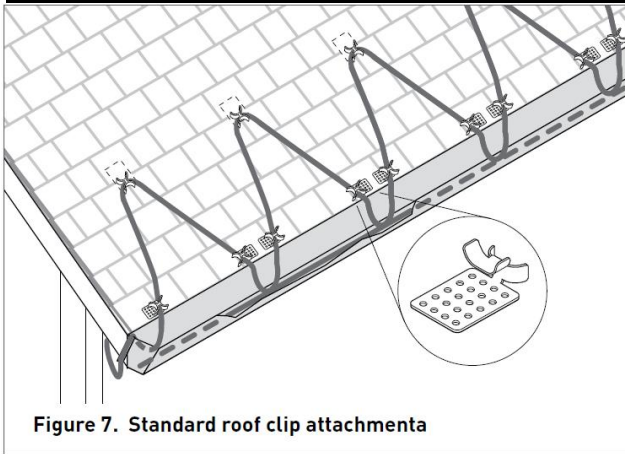
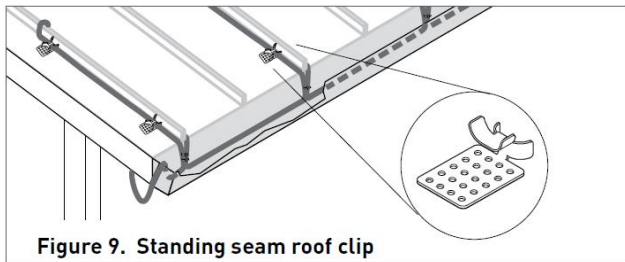

Figure 7. Standard roof clip attachment
Figure 9. Standing seam roof clip
- Roof clips may be attached to a shake or shingle roof with nails or screws as shown in Figure 7. Roof clips may be attached to a metal roof using screw, nail or adhesive as shown in Figure 9. Reseal the nail or screw holes if necessary before installing heating cable in the clips.